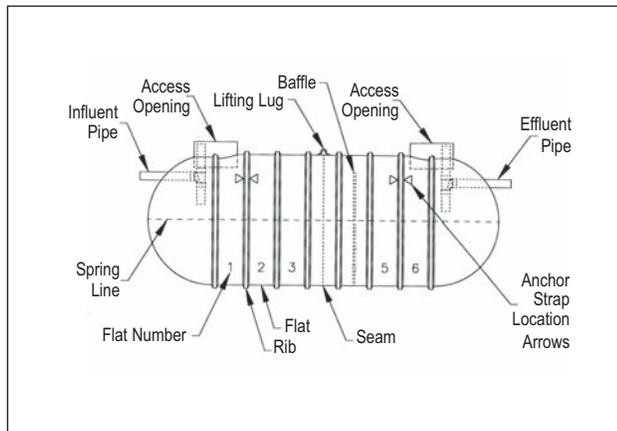

FIGURE 1-1
1.3.1. For terms related to Xerxes wastewater tanks, see *FIGURE 1-1*.